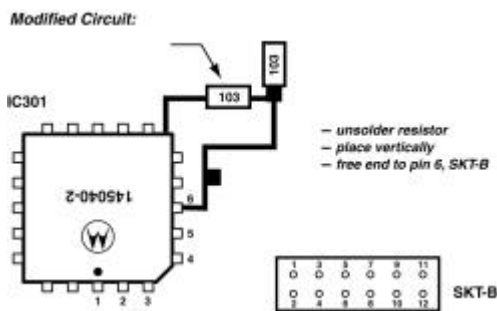

Figure 4
2. Carefully remove the 10k resistor indicated by the arrow in Figure 4. Re-mount this resistor, this time vertically, with the lower end soldered to the nearby 10k resistor.